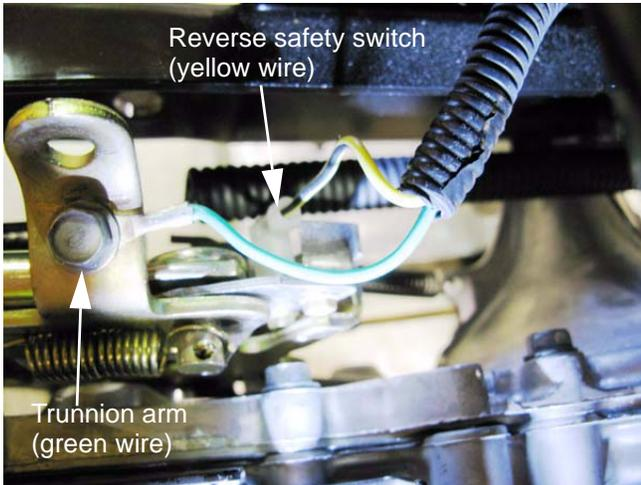

Figure 5.75
10. Disconnect the wires from the reverse safety switch. See Figure 5.75.